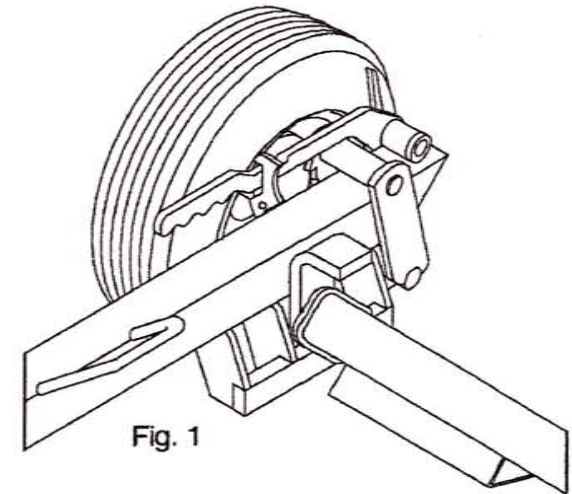

Fig. 1
- 5) Tilt the side frame slightly away from vehicle. Insert the axle ends into the slots on the side frame (see fig. 1). Use the slot positions closest to the towed vehicles tires, (i.e. the narrowest usable setting).